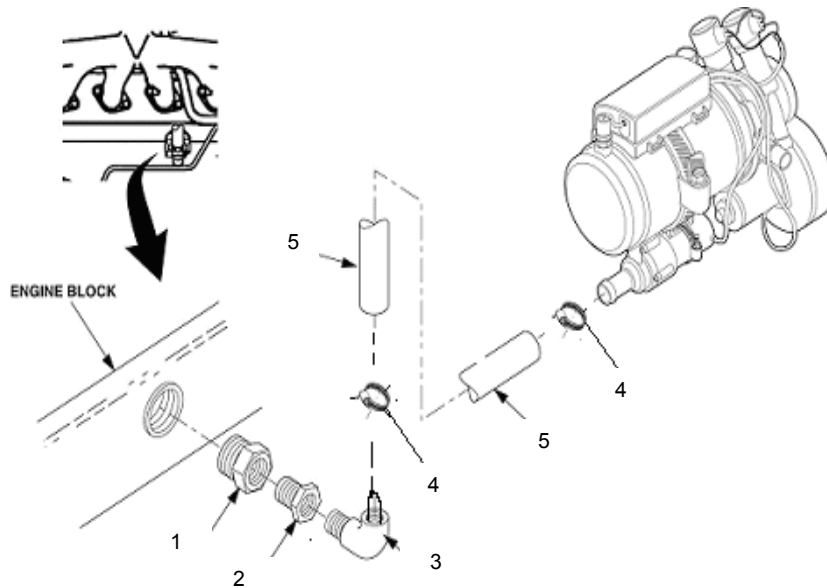

Figure 4-40. Coolant Inlet Hose Removal
9. Remove clamps (4), Figure 4-40, and coolant hose (5) from heater coolant pump. Remove adapter (1), bushing (2), and elbow °90 extension (3) from engine block and install new expansion plug in engine block hole.